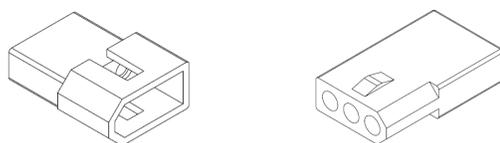

Figure 5
5. Field replace LED driver (**Figure 5**).
- d. Remove the LED driver from the support bracket and pull out of the aperture (**Figure 5**). Disconnect the wires from the existing LED driver.